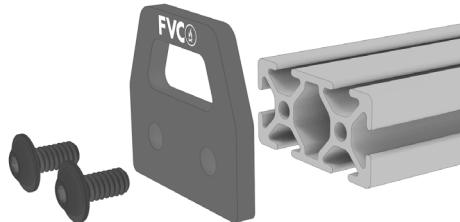

FIG 6
3.1 Attach End Caps to Crossbars: Find the Crossbar End Caps and attach to your Crossbar using (2ea) 1/4-20 x 0.75 Flanged Button Head Hex Drive Screws and Loctite (FIG 6).